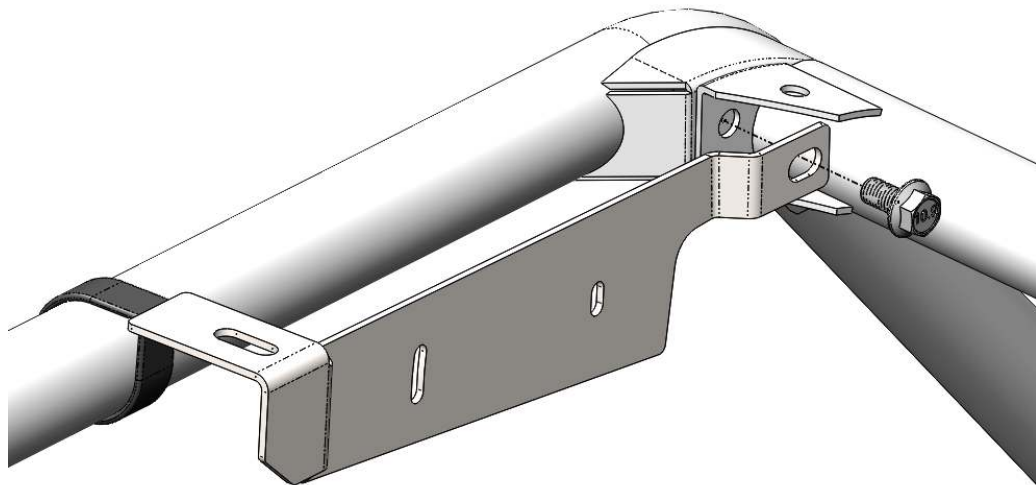

Figure 5: Mounting location of the *Audio Mini* bracket.
4. Place the driver's side bracket on the inside of the cross member. Use the factory bolt and loosely tighten it until the bracket is secured to the loop clamp in the following steps. Verify correct orientation of the mounting bracket. See Figure 5.